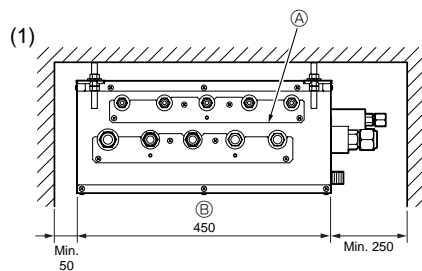

Fig.3-1
#### (1) Front View (Fig. 3-1)